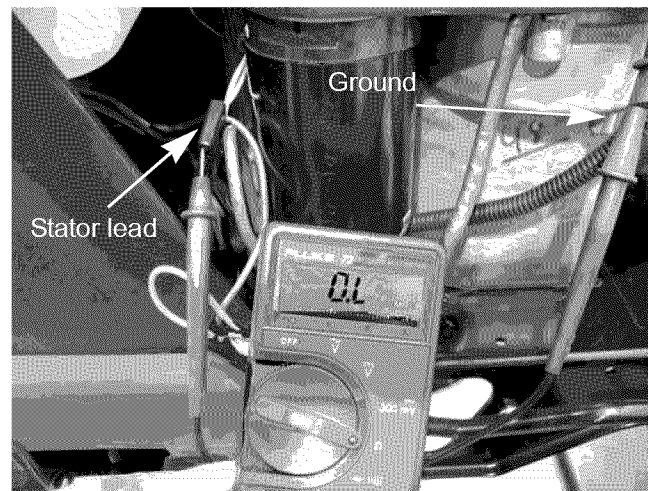

Figure 7.37
- 2d. The meter should indicate no continuity. See Figure 7.37.